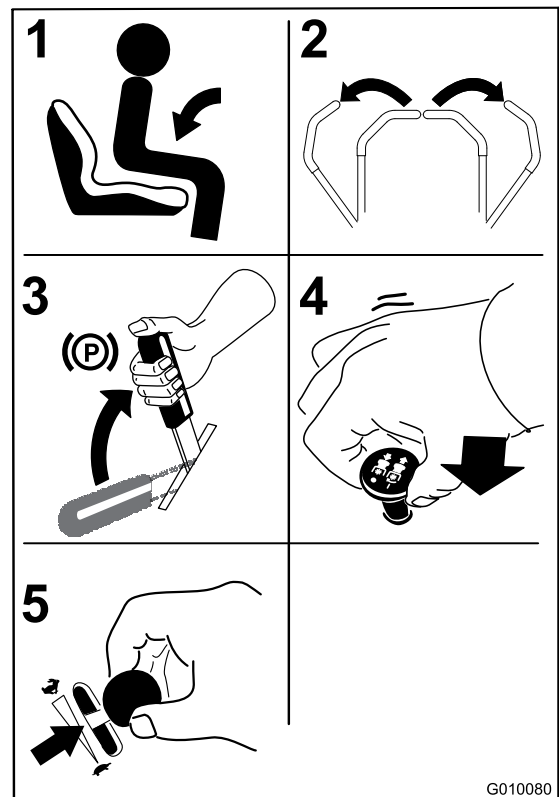

Figure 15
1. Sit down on the seat (Figure 15).
2. Move the motion controls outward to the neutral lock position (Figure 15).
3. Set the parking brake (Figure 15); refer to Setting the Parking Brake.
4. Move the blade control switch (PTO) to the Off position (Figure 15).
5. Move the throttle lever to Choke before starting a cold engine (Figure 15).